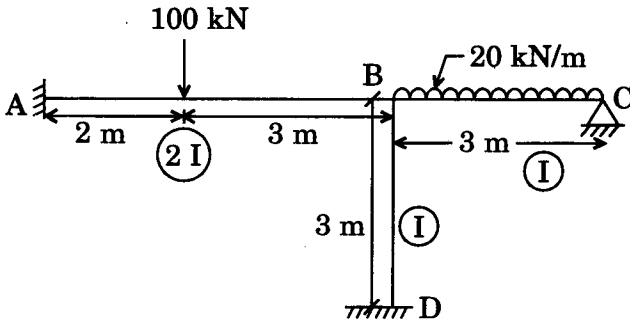

Figure 1
1. Analyse the frame shown in Figure 1 below by moment distribution method. Draw the bending moment diagram. The moment of inertia values are indicated in the figure.